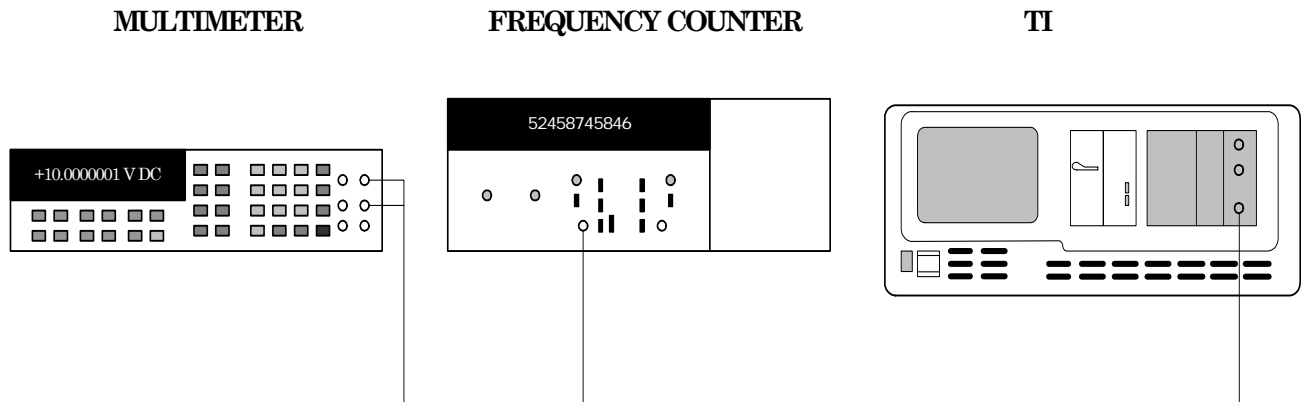

Figure 2. Transmitter flatness accuracy - equipment setup.
- (1) Connect equipment as shown in figure 2.
- (2) Press **Run/Halt** and **Pg Up** keys to view **SWEEP CONTROL** menu.
- (3) Change **SWEEP** to **CONT** and press **Pg Dn** key.
- (4) Press **Run/Halt** key. As TI sweeps from 20 to 200 Hz, multimeter display will remain between **0.73127** and **0.82049 V ac**.
- (5) Press **Run/Halt** and **Pg Up** keys to view **SWEEP CONTROL** menu.
- (6) Change **LO FREQ** to **199 Hz**, **HI FREQ** to **4000 Hz**, and **FREQ INCR** to **50 Hz**.
- (7) Press **Pg Dn** and **Run/Halt** keys. As TI sweeps from **199 to 4000 Hz**, multimeter display will remain between **0.75697** and **0.79264 V ac**.